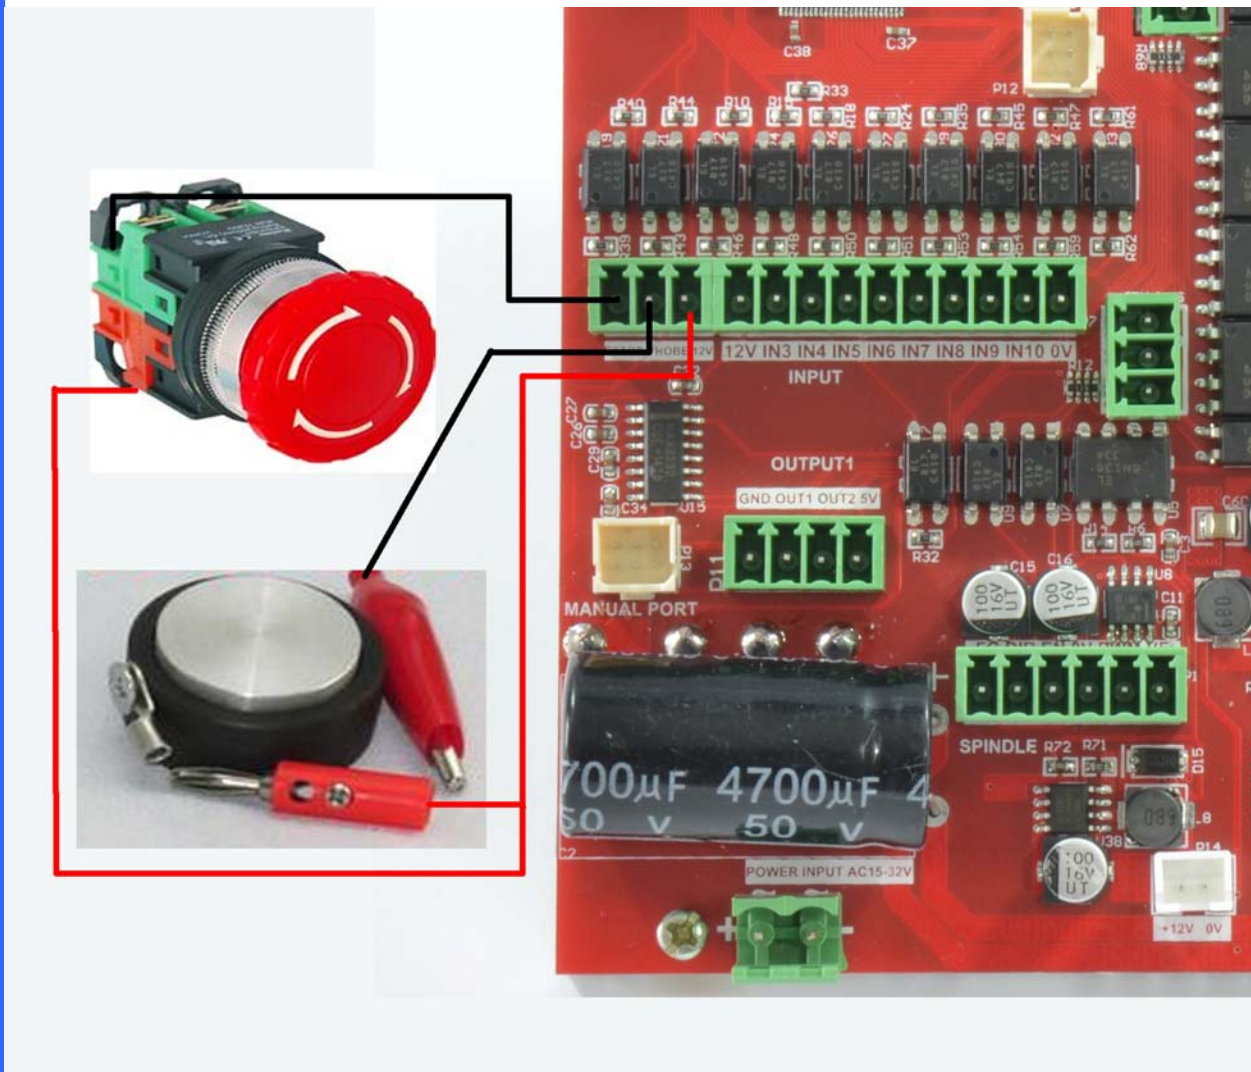

Figure2-8. Wiring of estop and probe
- P)Estop and probe .This port is 15D-3.5-3P port. Pin distance is 3.5mm. It's defined as ESTOP/PROBE/12V from left to right, see as figure 2-8. ESTOP and PROBE are